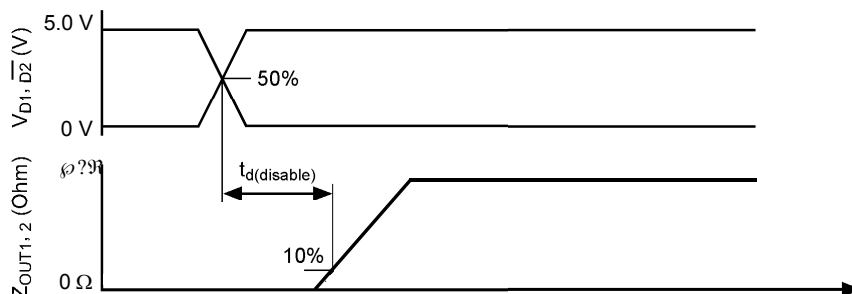

Figure 5. Disable Delay Time
25. Disable Delay Time is the time duration from the midpoint of the D (disable) input signal to 10% of the output tri-state response. See Figure 5, page 8.